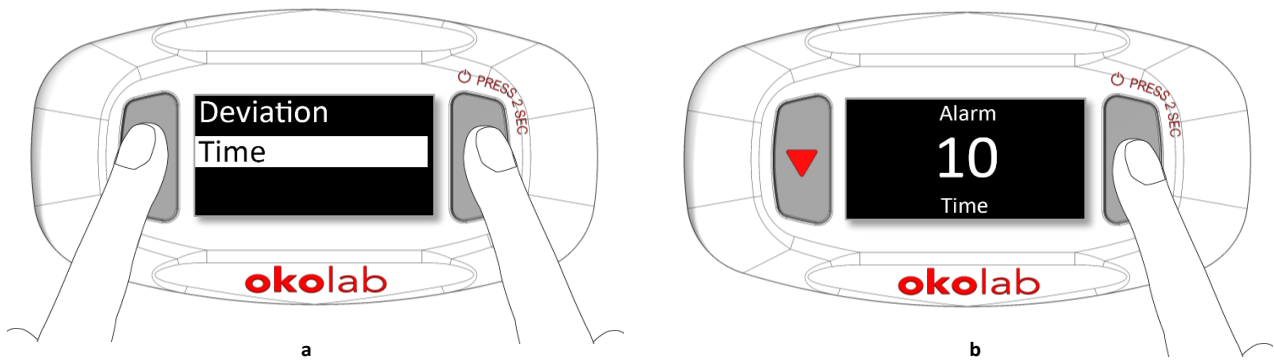

Figure 26. Time alarm setting (a - b).
3. Once you have opened the *Alarm* page as described in step 2, press the DOWN button to select the *Time* page and then press the UP & DOWN buttons at the same time for 1 second to enter the *Time* page (see Figure 26 a). Use the UP or DOWN button to change the time value (see Figure 26 b) and confirm by pressing UP & DOWN buttons at the same time for 1 second.